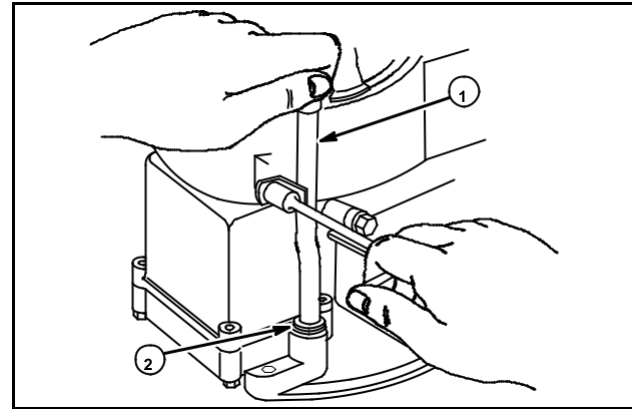

Fig. 4
1. When installing the extended oil fill tube (1) and dipstick assembly, the tube must be installed so the "O" ring seal (2) is firmly compressed.
3. When the cap and dipstick assembly is fully seated, it seals the upper end of the tube, Fig. 4.